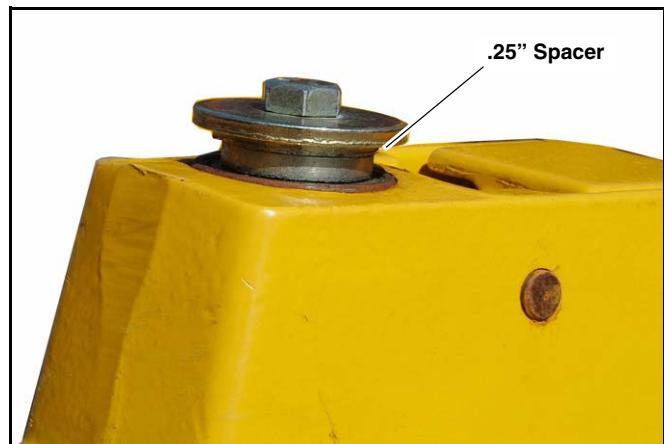

Fig. 3-8
8. If one side of the deck is more than .25" higher than the other side, lower the high side of the deck by transferring the .25" gauge wheel spacer from under the gauge wheel bearing to the top side. (Fig. 3-8 and 3-11)